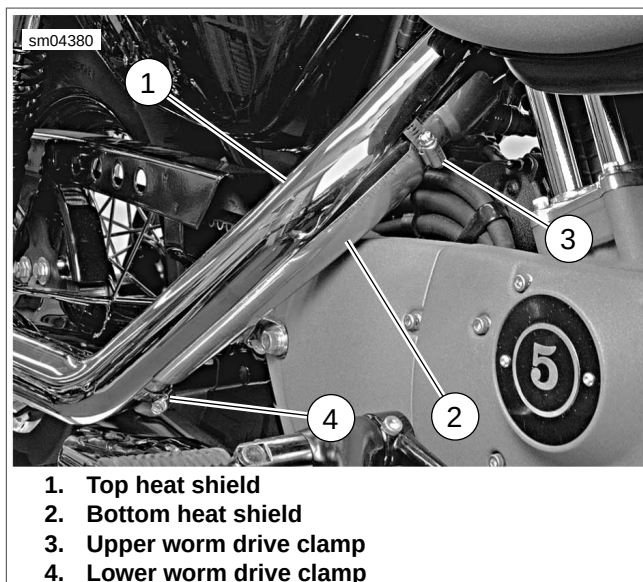

Figure 4-69. Rear Exhaust Pipe Heat Shields: Vehicles with Mid Controls
See Figure 4-69. Vehicles with mid controls are equipped with an extra heat shield (2) on the rear exhaust pipe.
- Place **new** Torca clamp assemblies (6) over slotted end of each muffler. Install each muffler onto the end of its respective exhaust pipe.
- Rotate both mufflers until their mounting bosses line up with holes in muffler interconnect bracket. Carefully mate each muffler with exhaust port in interconnect bracket. Loosely install flanged bolts (16). Do not tighten at this time.
- Tighten rear exhaust pipe clamp nut (22) to 15-19 ft-lbs (20.4-25.8 Nm).
- Plug in O2 sensor connectors (30). Front connector [138] is mounted on left front frame downtube. Rear connector [137] is attached to H-bracket behind engine on right side of vehicle. See 4.14 OXYGEN SENSOR.
- a. Open worm drive clamps (13) and install heat shields (11, 12) on exhaust pipes. Position each clamp so that screw is on the outboard side in the most accessible position.
- b. **Vehicles with mid controls:** See Figure 4-69. Tighten lower worm drive clamp (4) a few turns. Slide lower portion of bottom heat shield (2) into lower worm drive clamp. Engage upper portion of bottom heat shield into upper worm drive clamp (3).
- d. **California, HDI and England models:** open worm drive clamps (15) and install muffler heat shields (14) on mufflers. Position each clamp so that screw is on the outboard side in the most accessible position. Tighten clamps securely.